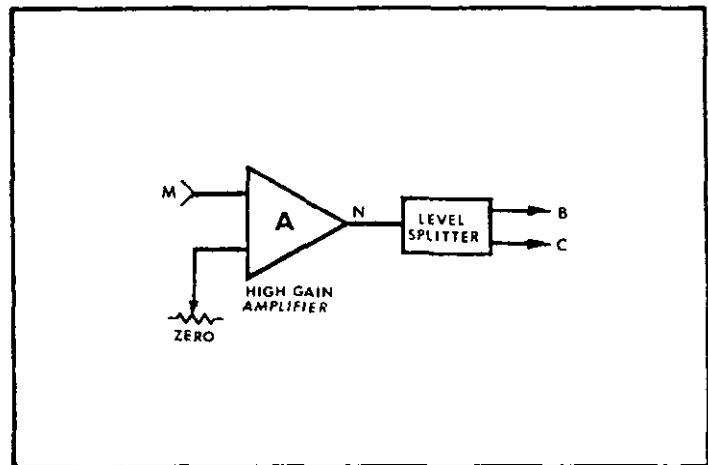

FIGURE 13. Zero Crossing Detector
c). "HOLD" Gate Circuit. Refer to Figure 13 for identification of switches S₁ and S₂. The "HOLD" gate circuit is composed of gates QA501A, QA501D, and QA502 (A, B, C, and D). Switch S₁ is gate QA501A and is controlled by either the "HOLD 2" external line or the "MAX" position on the DISPLAY RATE Control. Switch S₂ is the transistor Q513 which is controlled by either the "Q" output of the flip-flop or the "HOLD 2" external line. The "HOLD 1" circuit is composed of gates QA502B and QA502C.
f. Polarity Board. The Polarity Board contains various circuits which are controlled by signal "B" and "C" from the Zero Crossing Detector signal as shown in Figure 13.